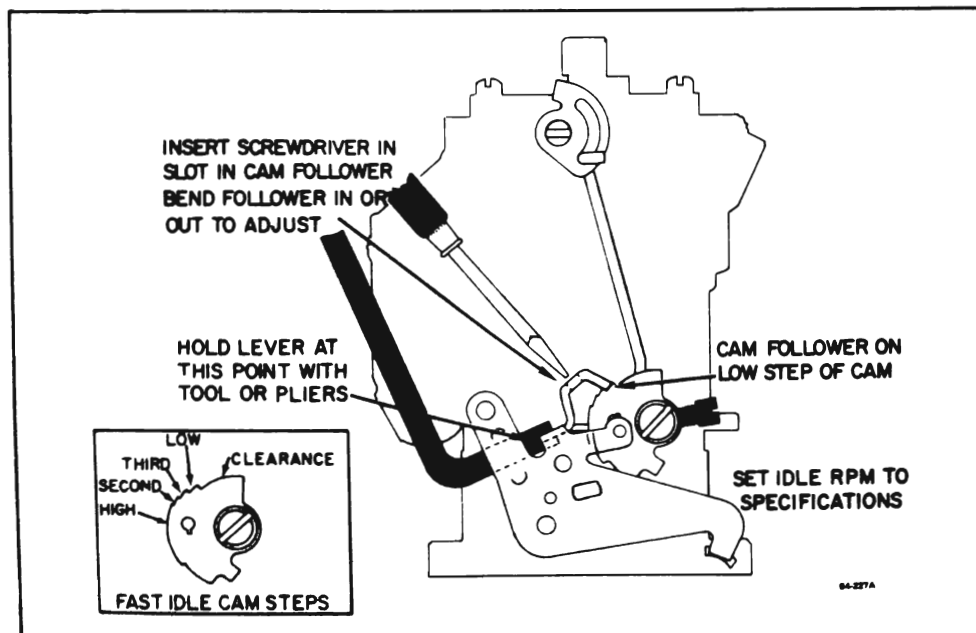

Figure 64-63 Fast Idle Adjustment
2. Place fast idle cam so that cam follower tang is resting on low step of cam. See Figure 64-63.